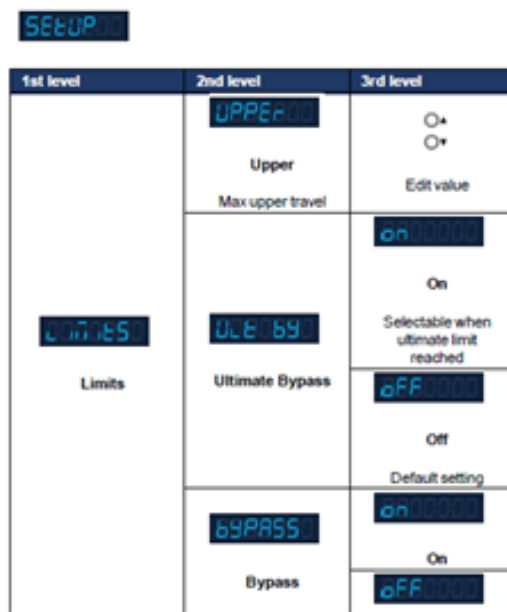

Figure 21. Elevation Drive Setup menu
1. Enter the Setup menu on the Elevation Drive - see Figure 21. Enter the Limits menu and then the Ultimate Bypass menu. Then set the option to ON.